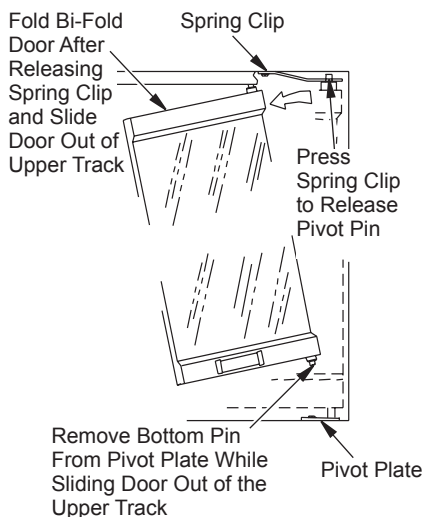

Figure 35 - Removing Glass Doors
2. Fully fold frame assembly and slide upper edge towards center of firebox opening until guide pins are free of frame rail (see Figure 35).